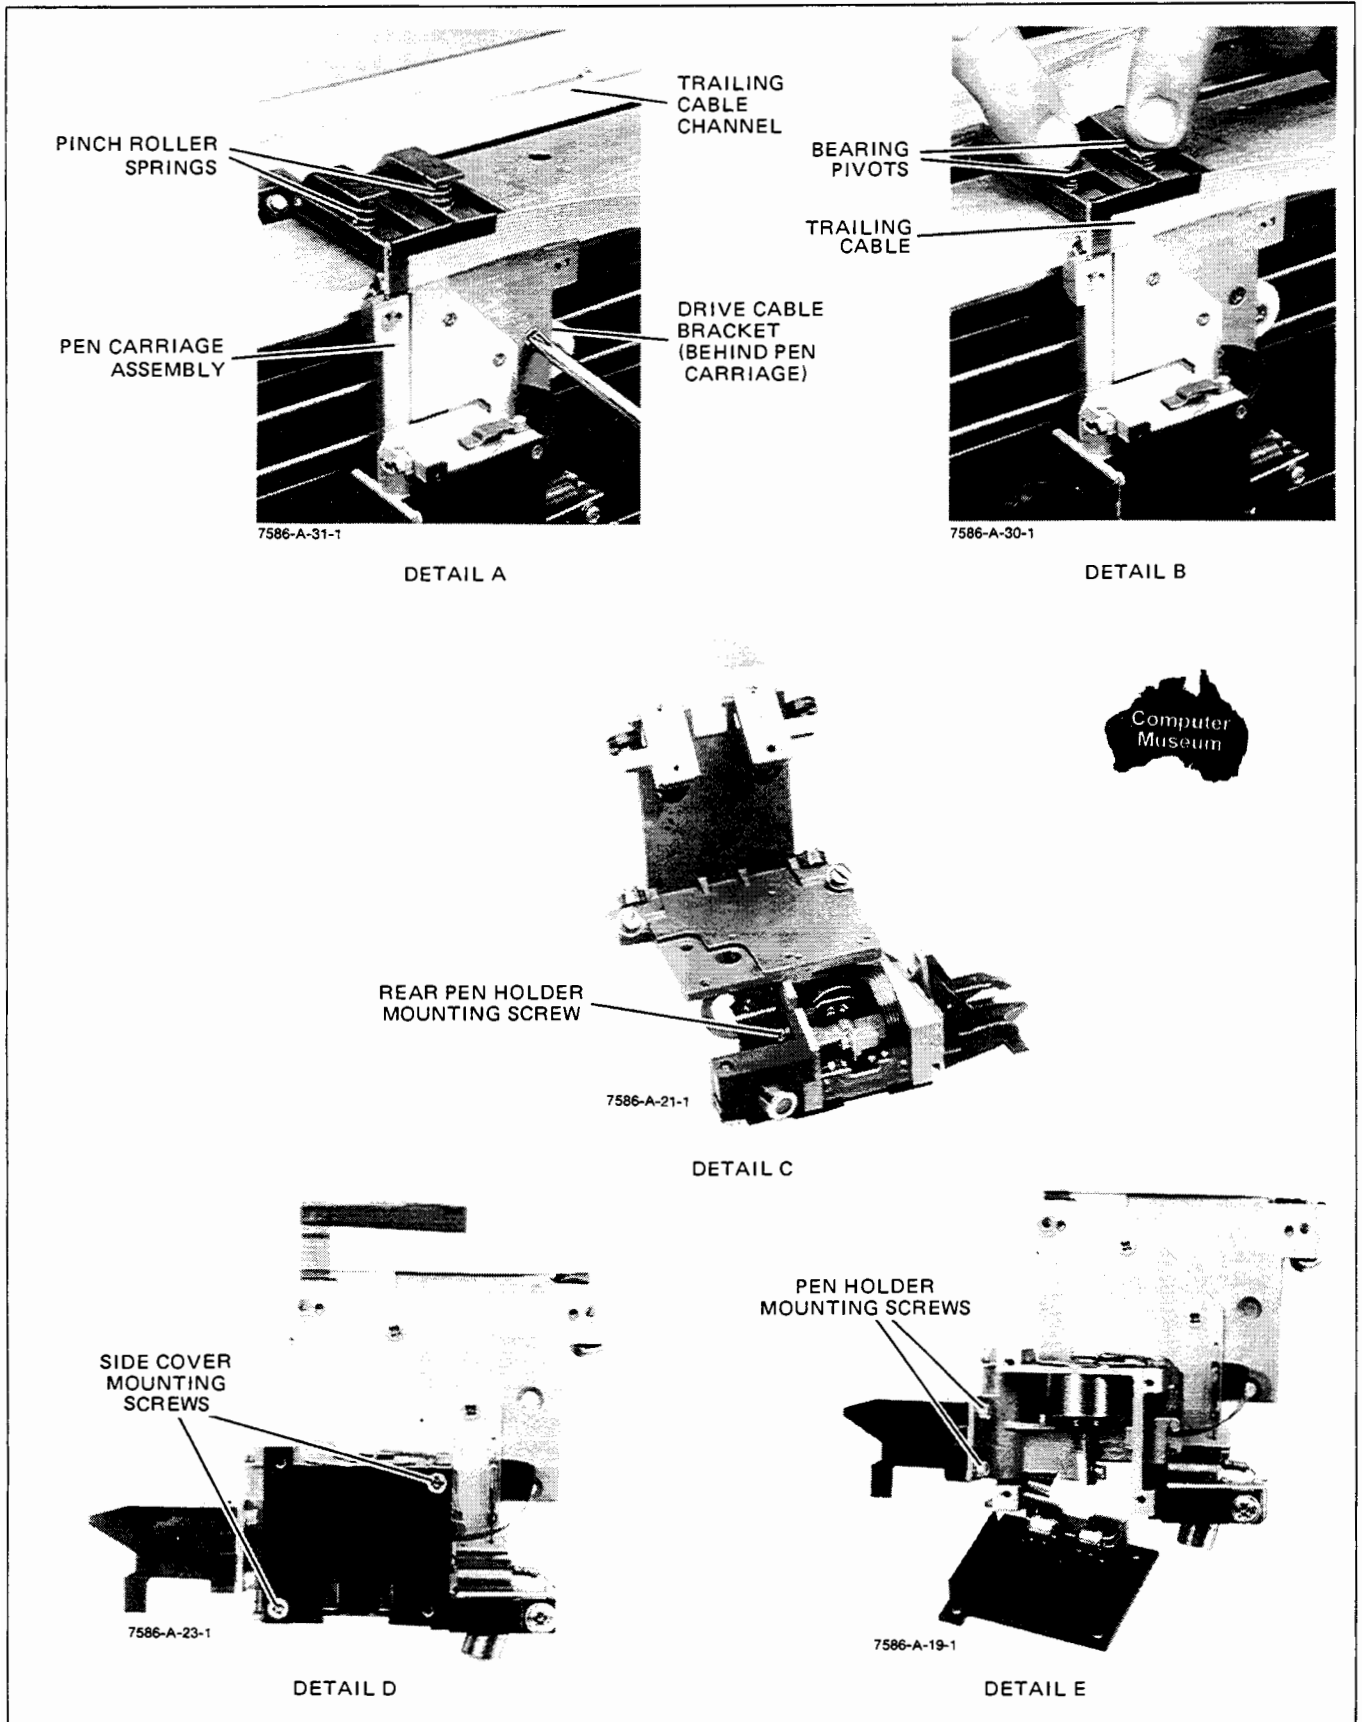

Figure 3-17. Pen Holder Adjustment
- i. Remove the two screws securing the pen carriage to the drive cable bracket. See Figure 3-17, Detail A.
- j. Compress the two pinch roller springs which apply pressure to the two bearing pivots on top of the carriage. See Figure 3-17, Detail B. Rotate the carriage forward and off the Y-arm.
- k. Loosen the rear pen holder mounting screw. See Figure 3-17, Detail C.
- l. Remove the two screws securing the side cover of the pen carriage. See Figure 3-17, Detail D. Carefully separate the side cover from the pen carriage so as to avoid damaging the flex cable. Do not disturb the alignment of the penlift photo sensors and flag mechanism.
- m. Loosen the two remaining pen holder mounting screws. See Figure 3-17, Detail E.